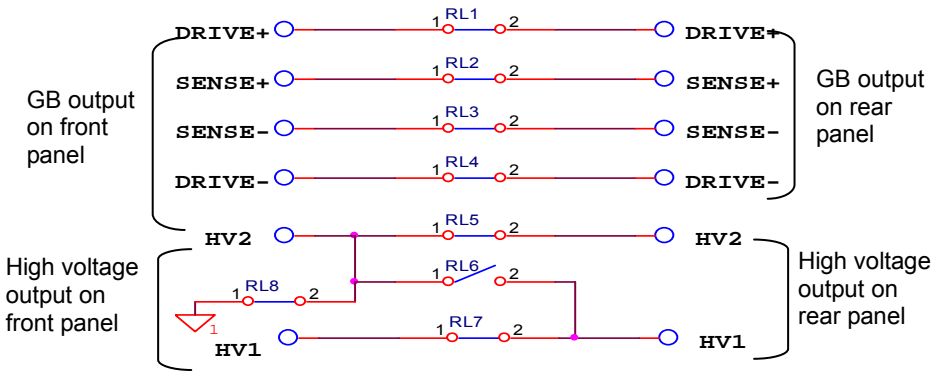

Figure 4-12
- ii. When Channel 3 set to H and HV1 terminal on rear panel set to high voltage output, connection diagram of front panel terminal and rear panel terminal is as Figure 4-12 shown: